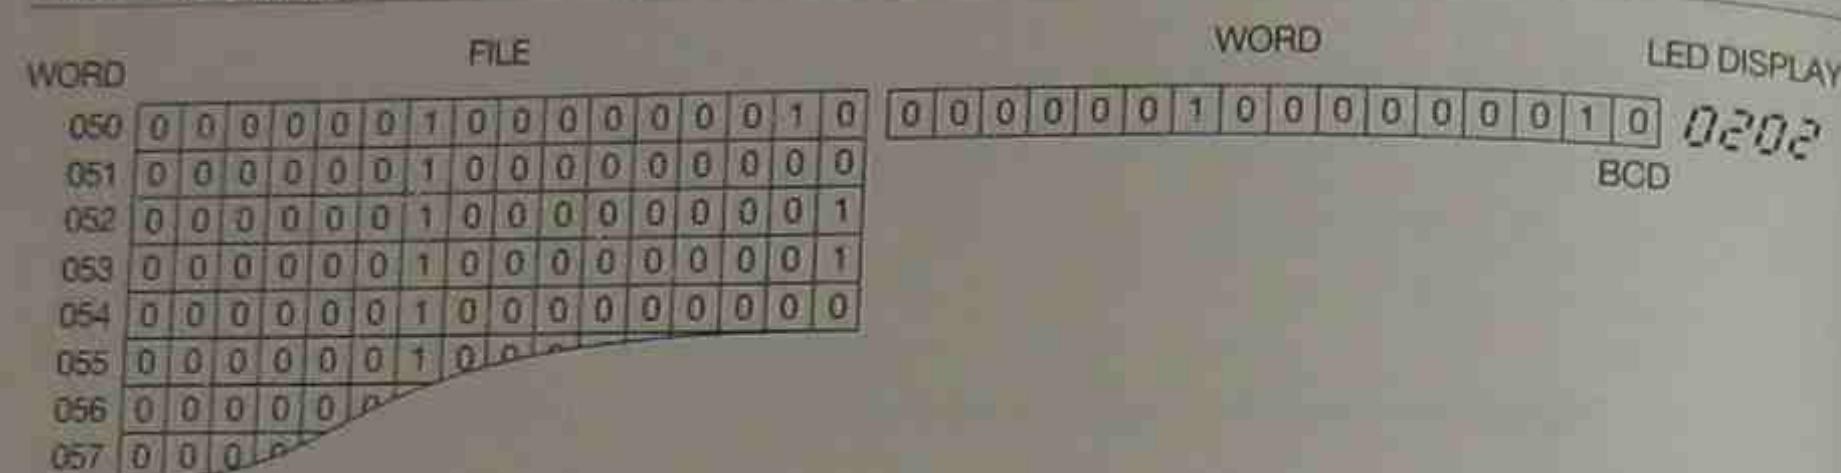

Figure 16-16a File-to-Word to Instruction at First Word of File (050)
Using the previous example, the temperature of the injection molding machine die can be transferred to an output word (011) that controls a LED display. By incrementing or indexing the file-to-word instruction, the temperature of the die in 15 minute intervals is displayed. Figures 16-16a and 16-16b illustrate how a file-to-word instruction functions.